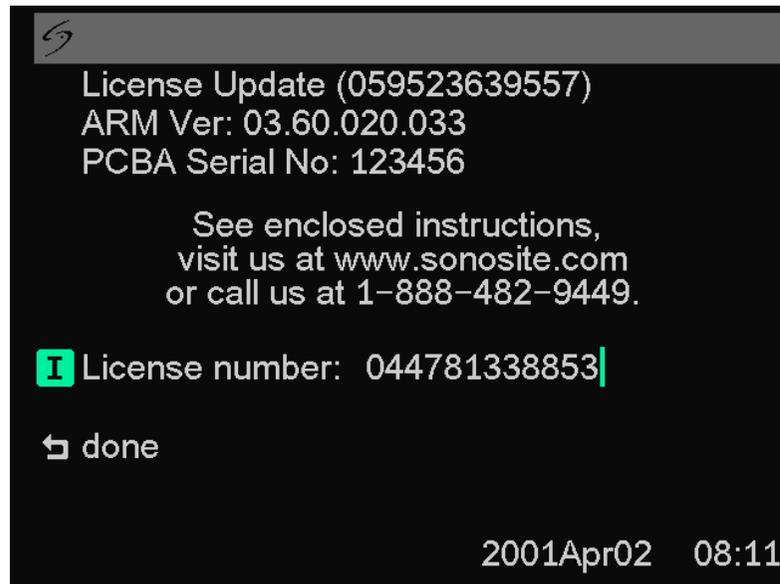

Figure 4.4 License Update Screen
- 1 Turn on the system. If the software is not yet licensed, the license update screen displays (Figure 4.4).